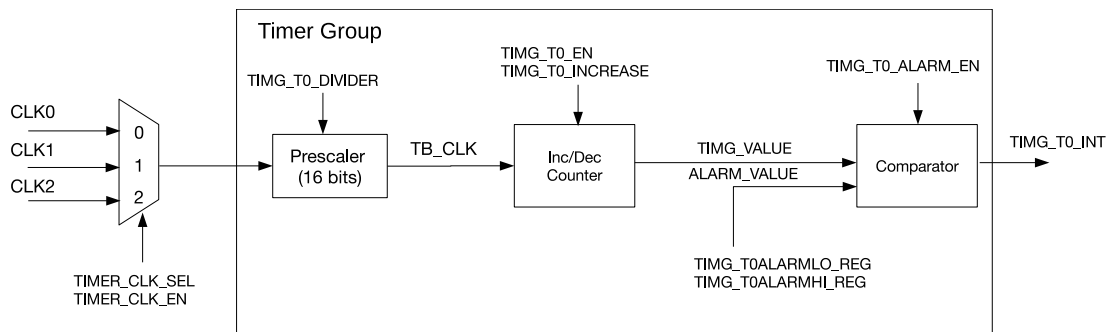

Figure 11.3-1. Timer Group Architecture
Figure 11.3-1 is a diagram of timer T0 in a timer group. T0 contains a 16-bit integer divider as a prescaler, a timer-based counter, and a comparator for alarm generation.
- The selected clock can be switched on by setting `PCR_TGO_TIMER_CLK_EN` field of the `PCR_TIMERGROUPO_TIMER_CLK_CONF_REG` register to 1 and switched off by setting it to 0. This field is indicated as `TIMER_CLK_EN` in Figure 11.3-1. The clock is then divided by a 16-bit prescaler to generate the time-base counter clock (TB_CLK) used by the time-base counter. The divisor of the prescaler can be configured through the `TIMG_T0_DIVIDER` field.